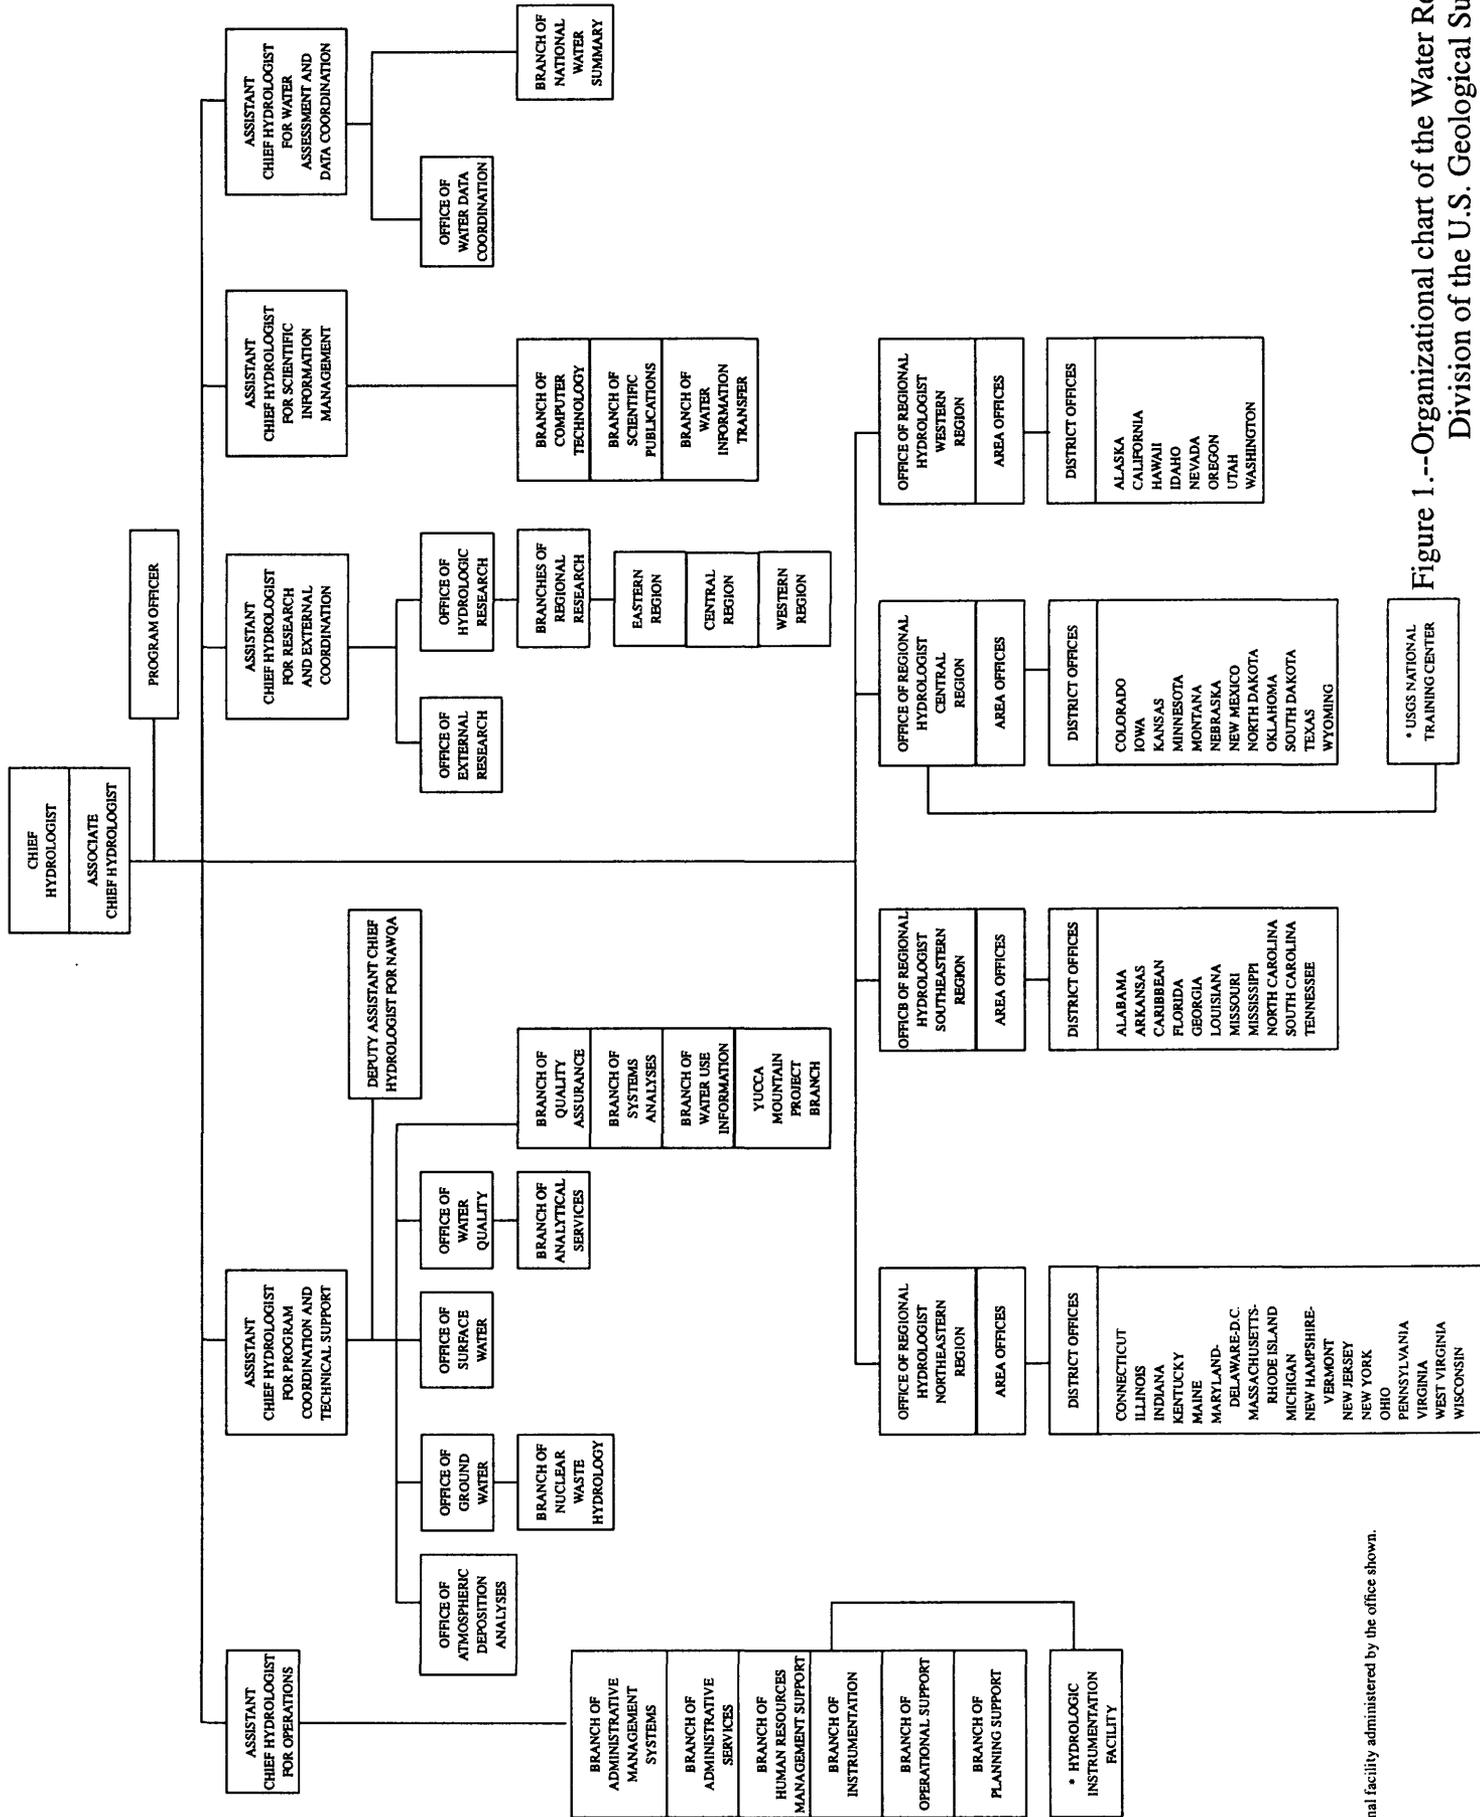

Figure 1.--Organizational chart of the Water Resources Division of the U.S. Geological Survey, 1993.
Under the NFQA, alkalinity, pH, and specific conductance proficiency samples are distributed to more than 180 USGS offices. Approximately 10 USGS offices request proficiency samples for contractor or cooperator personnel participating in the program. The most probable value (MPV) of alkalinity, pH, and specific conductance of proficiency samples is calculated from all the values submitted from the participating region (fig. 1). Contractor and cooperator data normally are not differentiated from USGS data in determining the MPV of alkalinity, pH, and specific conductance proficiency samples. The data for each proficiency sample are summarized by the NFQA manager in a report, which is then distributed to the USGS offices. All the NFQA data are stored in a computerized data base managed by the Quality Water Service Unit (QWSU) of the Florida district office of the U.S. Geological Survey.
6. When editing data for a region (fig. 1) while working with the INFO data base, make sure you are working in the correct file by checking the district codes for that region in that file; for example, district codes AL, FL, and GA would only be found in the region file S.E.R. (C.R. = Central Region, N.E.R. = Northeast Region, S.E.R. = Southeast Region, W.R. = Western Region).
- a. Verify the header information in the table by determining if the district name is listed in the appropriate region (fig. 1),
10. The EMACS editor located on the DCOLKA Prime computer can be accessed using many different makes and models of computer terminals. Data General (DG) workstations and TAB terminals were used by the NFQA program manager. The procedures used to invoke the EMACS editor follows: